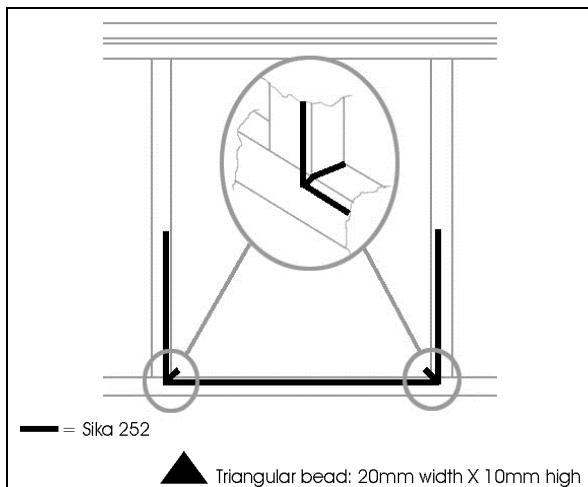

FIGURE 78 : SLIDING WINDOW - SIKA 252 APPLICATION
4. Apply Sika 252 as per FIGURE 78 (triangular bead: 20mm width X 10mm high [13/16" X 3/8"]).